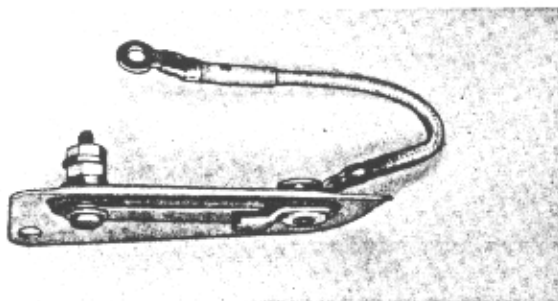

Figure 12—Overheat Switch
1. The overheat switch (Figure 12) will automatically close the shut-off solenoid of the fuel control valve and stop the fuel flow in the event the heater becomes overheated. It consists of a fixed contact point and a bi-metal blade which is mounted directly in the ventilating air stream.